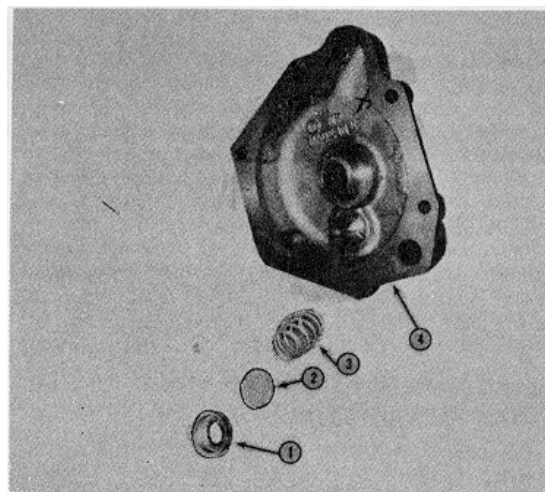

Fig. 7-2 (N10730) By-pass valve full-flow filter
1. Remove all pipe plugs and fittings from filter head. Remove filter by-pass valve retainer (1, Fig. 7-2) with a standard puller, valve seat (2) and spring (3) from filter head (1), if necessary after Step 3 above. Housing may remain in filter head. Clean housing and case in approved cleaning solvent and dry with compressed air.
4. If removed, insert filter by-pass valve spring (3, Fig. 7-2) (large end first) in filter head (4), position relief valve (2) in bore coated side out over spring (3) and secure with retainer (1), press retainer in bore flush with head.